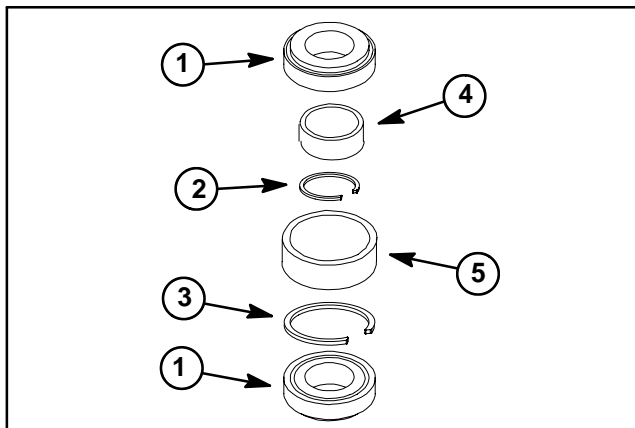

Figure 6
NOTE: A replacement spindle bearing set contains two (2) bearings, a spacer ring and a large snap ring (items 1, 2 and 3 in Fig. 6). These parts cannot be purchased separately. Do not mix bearing set components from one deck spindle to another.
NOTE: A replacement bearing spacer set includes the inner spacer and outer spacer (items 4 and 5 in Fig. 6). Do not mix bearing spacers from one deck spindle to another.
IMPORTANT: If bearings are being replaced, make sure to use the spacer ring that is included with the new bearing set (Fig. 6).